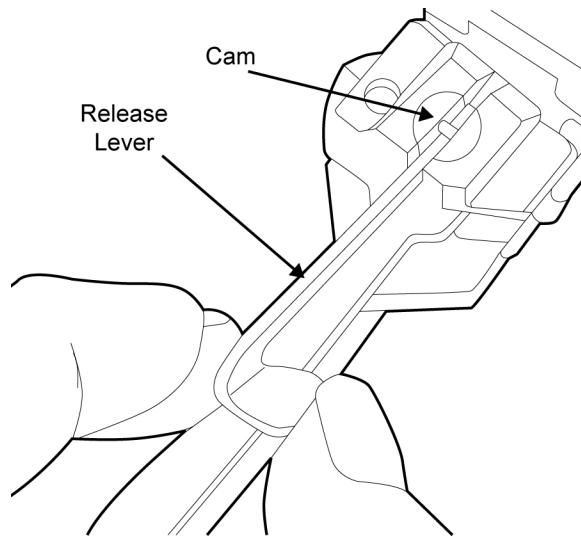

Figure 39. Removing the Release Lever.
c. Pull the release lever out of the rear of the side folding buttstock. Refer to Figure 39.